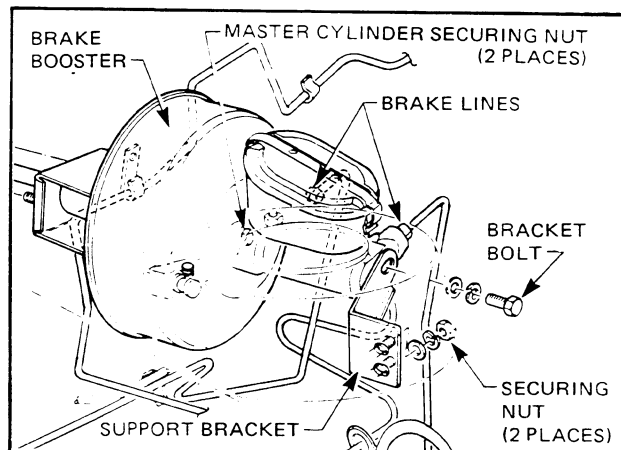

Figure 5-3
1. Disconnect electrical lead and three brake pipes from master cylinder. (Refer Fig. 5-3).
2. Unscrew nuts securing master cylinder support bracket to adjacent spring tower. (Refer Fig. 5-3).
3. Remove master cylinder to bracket bolt and remove bracket. (Refer Fig. 5-3).
4. Remove nuts securing master cylinder to power booster studs. (Refer Fig. 5-3).